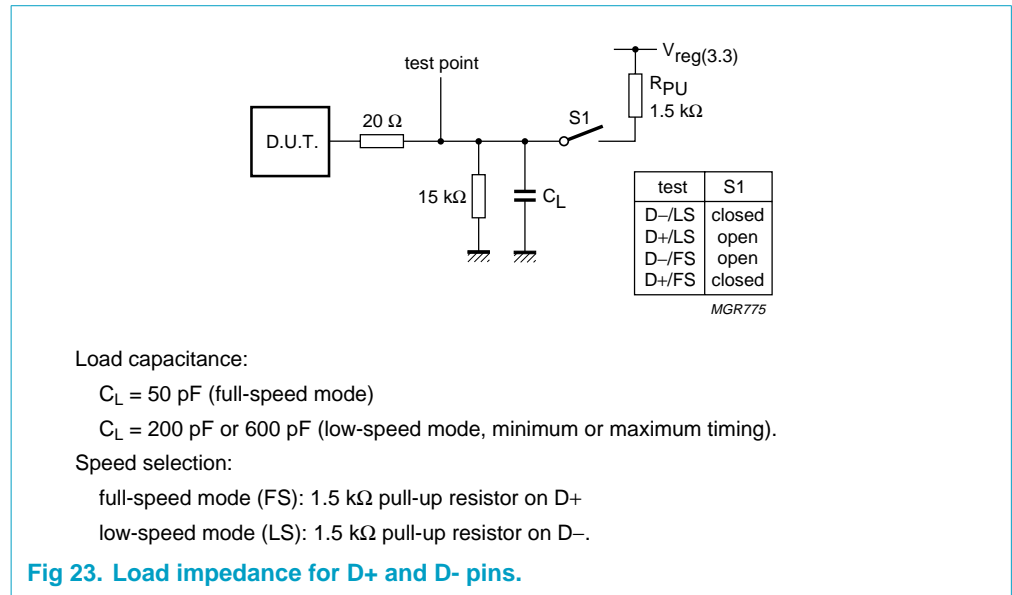

Fig 23. Load impedance for D+ and D- pins.
[1] Test circuit; see Figure 23.
- [1] Test circuit: see Figure 23.
The dynamic characteristics of the analog I/O ports (D+ and D-) as listed in Table 32 and Table 33, were determined using the circuit shown in Figure 23.